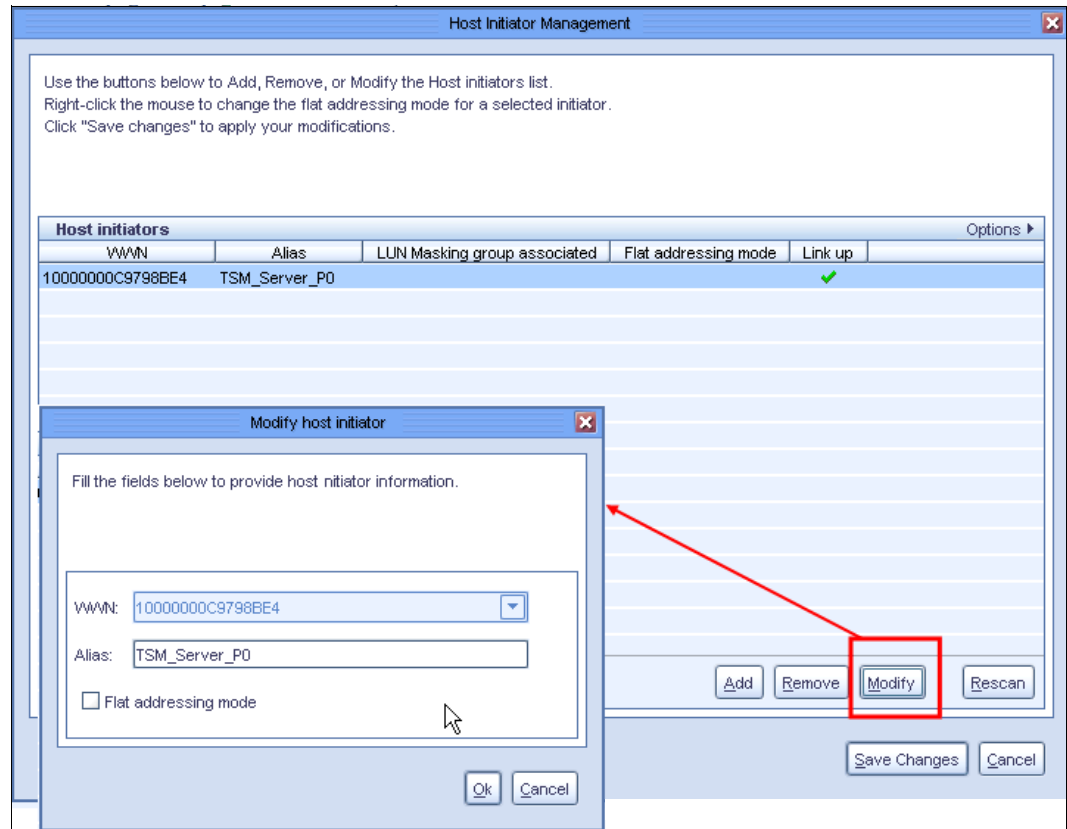

Figure 7-8 Modifying a host initiator alias
3. You can also assign an alias to the WWN by clicking **Modify**. Aliases make it easier for you to identify which host is related to the WWN, as shown in Figure 7-8. The ProtectTIER worldwide port names (WWPNs) are found here.